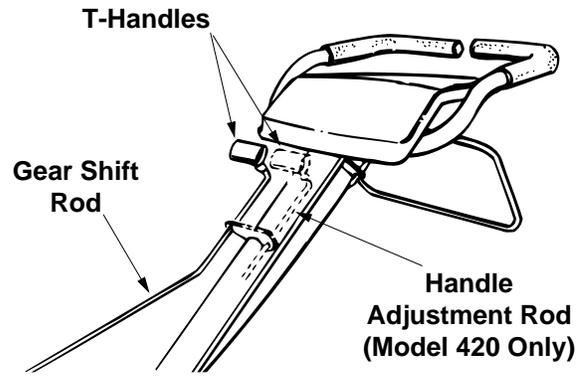

Figure 7
- Remove the T-handle, nut, hairpin clip, flat washer and rubber washer from the end of the gear shift rod. Slide the rod up through the bracket on the front of the handle assembly (use the right hand hole for Model 420). See Figure 7.
1. Remove the T-handle, nut, hairpin clip, and rubber washer from the ends of the handle adjustment rod. Slide the rod up through the left side of the bracket on the front of the handle assembly. Refer to Figure 7.